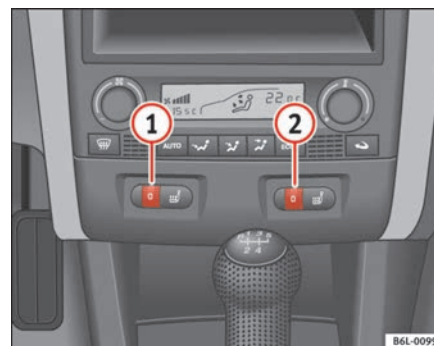

Fig. 73 Thumb wheel for the front seat heating
- Turn the appropriate thumb wheel ⇒ **fig. 73** to switch on the seat heating. The seat heating is switched off in the **0** position.